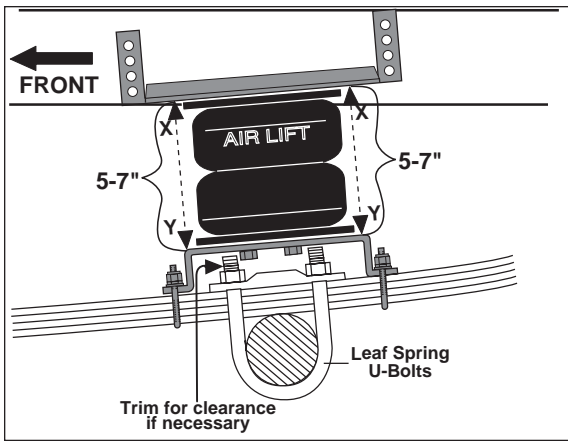

Figure 7
NOTE: Some vehicles may require the leaf spring U-bolts to be trimmed to allow the bottom bracket to fit properly (Figure 7).
1. Align the assembly vertically and horizontally (Figure 7). There must be sufficient clearance between the air springs, the frame, and the tire and brake drum at the maximum inflated diameter (7.0"). Tighten the upper bracket and mounting bolts for the bellows to 20 ft./lbs.